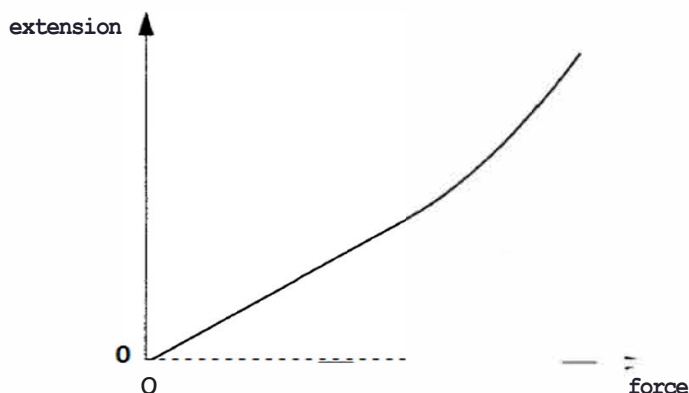

Fig. 3.1
- 5 (a) Fig. 3.1 shows the variation with tensile force of the extension of a copper wire.
- (ii) 1. On Fig. 3.1, mark with the letter L the point on the line beyond which Hooke's law does not apply.
2. State how the spring constant for the wire may be obtained from Fig. 3.1.